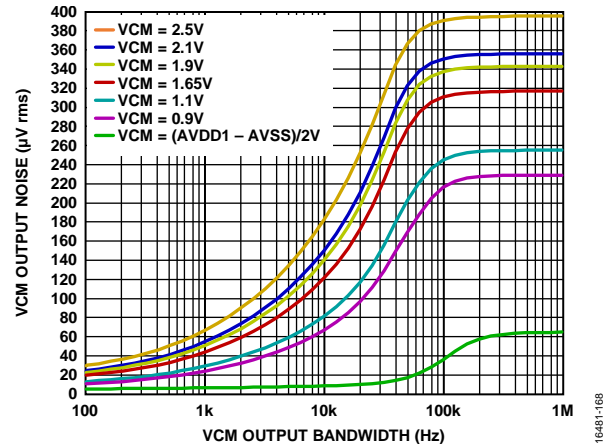

Figure 66. VCM Output Noise vs. VCM Output Bandwidth
Figure 66 is a simulation of the VCM noise for each VCM setting, plotted over a bandwidth of 100 Hz to 1 MHz. An external resistor capacitor (RC) filter is required to set the bandwidth to meet the VCM noise requirement. For example, a VCM output of 2.5 V has 180  $\mu\text{V}$  rms of noise (see Figure 66). If the bandwidth is limited to 1 kHz, this noise can be reduced to approximately 65  $\mu\text{V}$  rms (see Figure 66).